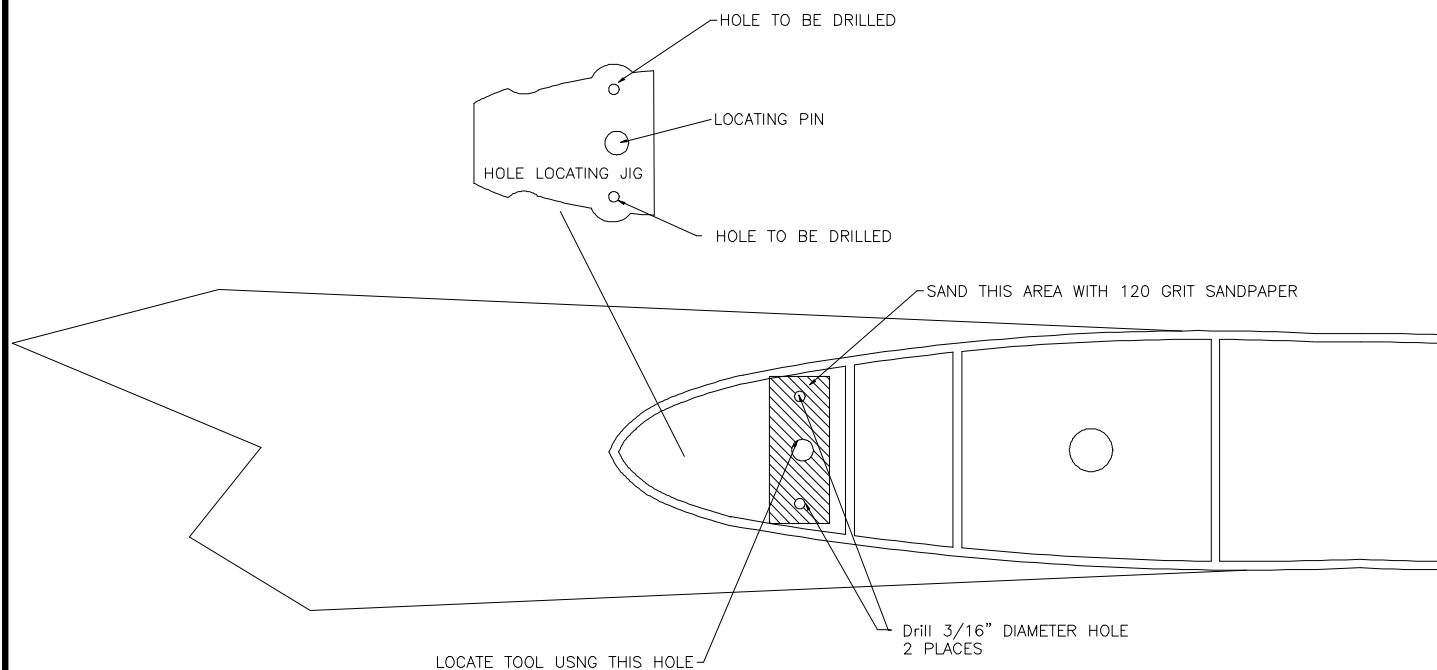

Figure 2
- 10.9. Position the supplied drill jig onto the top surface of the vertical stabilizer as shown in figure 2. Drill two 3/16" diameter holes through top of vertical stabilizer.
- 10.11. Clean the vertical stabilizer top surface in the area of forward attachment with de-natured alcohol. Scuff the surface in the area of the forward attachment with 120-grit sandpaper. Reference figure 2.